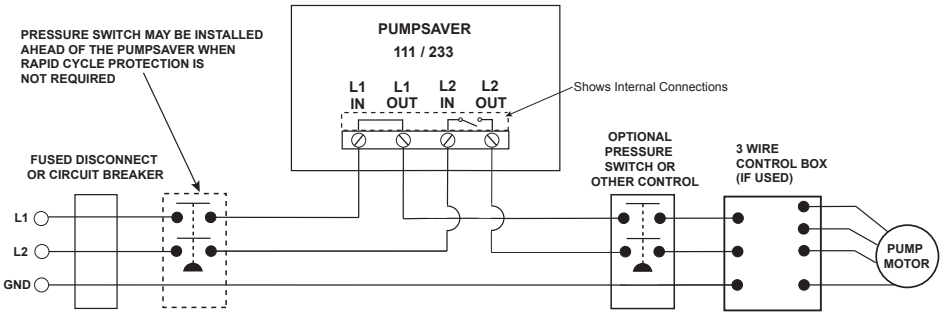
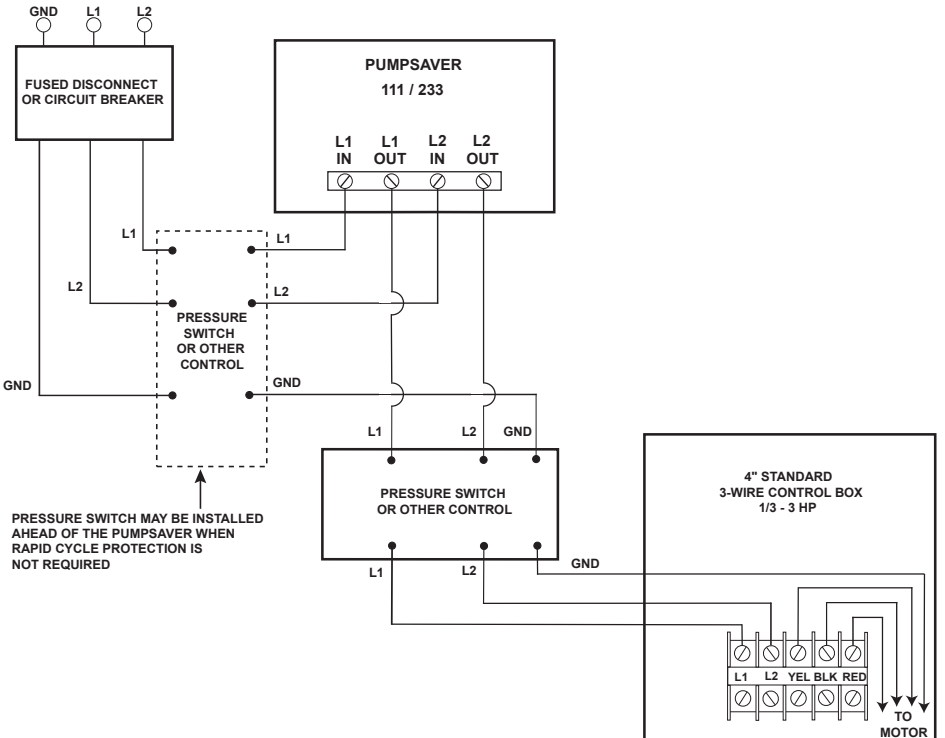

Figure No. 1: Typical Wiring Diagram for Models 111 and 233
Figure No. 2: Standard Control Box
2. Connect one line from the fused disconnect to the PumpSaver's "L1 IN" terminal. Run a wire from the "L1 OUT" terminal to the other in-line controls such as a pressure switch. See Figure No. 1.
3. Connect the other line from the fused disconnect to PumpSaver's "L2 IN" terminal. Run a wire from the "L2 OUT" terminal to the other in-line controls such as pressure or float switches. See Figure No. 1.
4. See Figure No. 1 for Electrical diagram. See Figure No. 2 for Mechanical wiring diagram for standard 3 wire control boxes. See Figure No. 3 for Mechanical wiring diagram for Deluxe control boxes. See Figure No. 4 for Mechanical wiring diagram for direct feed of 2-wire pumps.